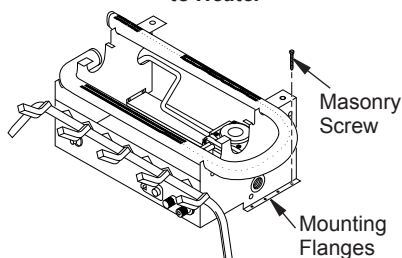

Figure 12 - Attaching Base Assembly to Fireplace Floor
7. Mark screw locations through holes in mounting flanges (see Figure 12). If installing in a brick-bottom fireplace, mark screw locations in mortar joint of bricks.
- Attach base assembly to fireplace floor using two masonry screws (in hardware package) (see Figure 12, page 13).